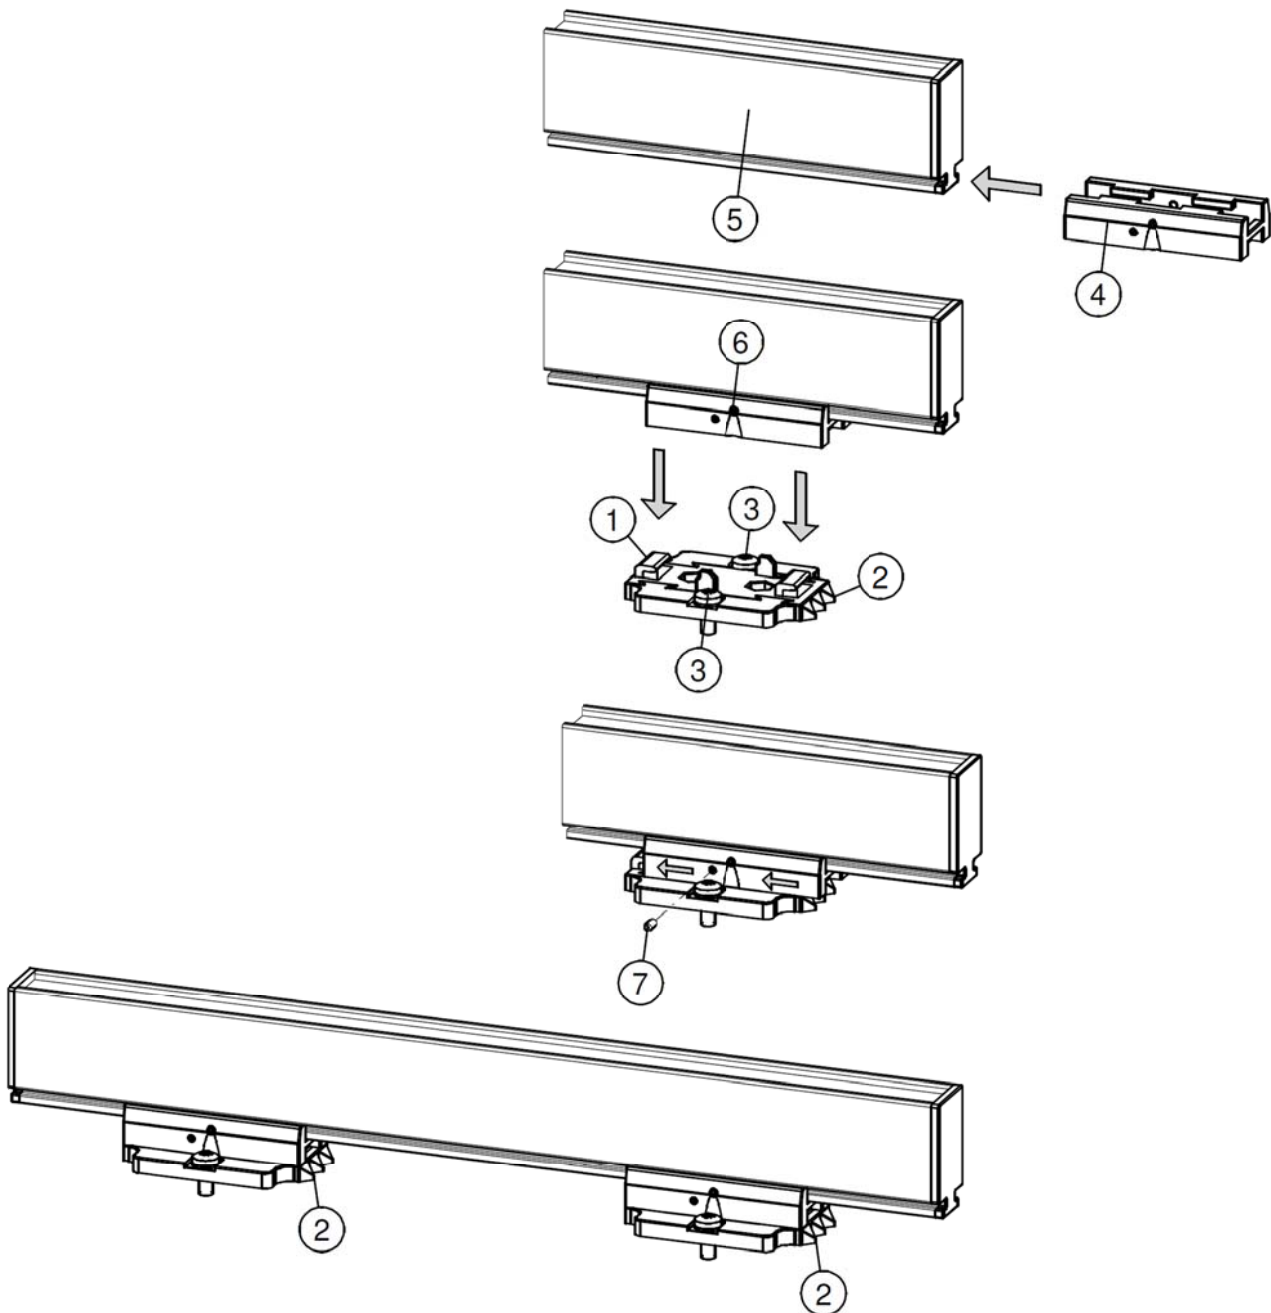

Figure 7: Fixing Sensor with mounting brackets
- **Conductive machine parts close to an IQ Easy Sensor may have a negative influence on its effectiveness. For the best results the Sensor should be mounted according to figure 7.**
- Lock the Sensor in the mounting feet by screwing the two adjusting screws (7) into the brackets. With more than two brackets, only the two outer brackets need to be locked.
- Unscrew the adjusting screws (nr. 7) from the brackets (see figure 7).